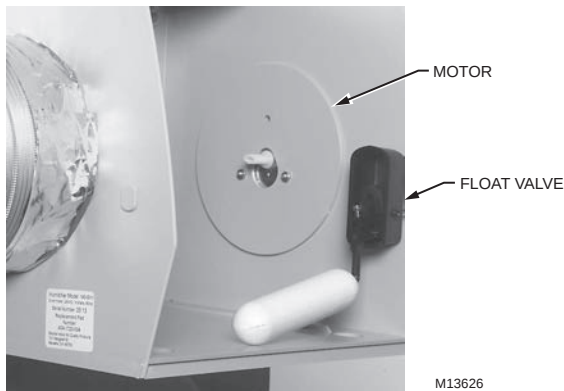

Fig. 24. Correct Float Valve position.
6. Install the Float Valve to the Humidifier Housing on the same side as the Motor Plate. See Fig. 24. (If the Float Valve is already installed on the same side as the Motor Plate, skip this step.)
- c. Place Float Valve Stem through "D" hole on same side as the motor. See Fig. 24. (Float must be at bottom.)